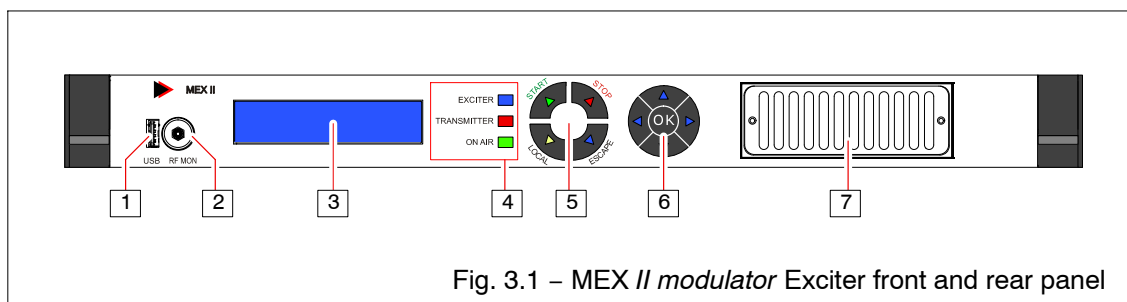

Fig. 3.1 – MEX II modulator Exciter front and rear panel
- Tab. 3.1 refers to Fig. 3.1 which is the call out of “MEX // Modulator” front panel
Tab. 3.1 – MEX II Exciter front panel call out (ref. Fig. 3.1)
Tab. 3.1 – MEX // Exciter front panel call out (ref. Fig. 3.1)
- ▶ push 'STOP' ([5] of Fig. 3.1) on **MEX II modulator**;